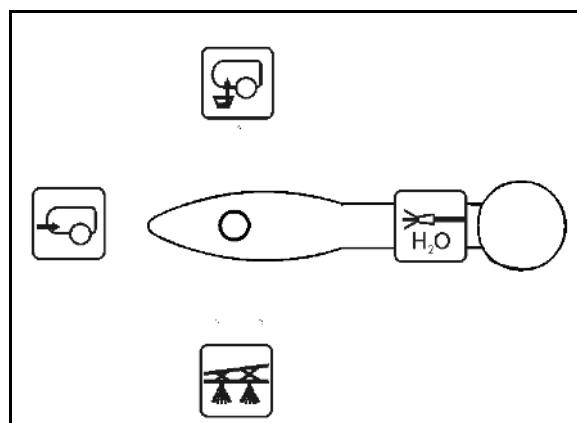

Fig. 94
3. Pressure gauge switch tap in position  (Fig. 94).
11. Pressure gauge switch tap in position  (Fig. 94).